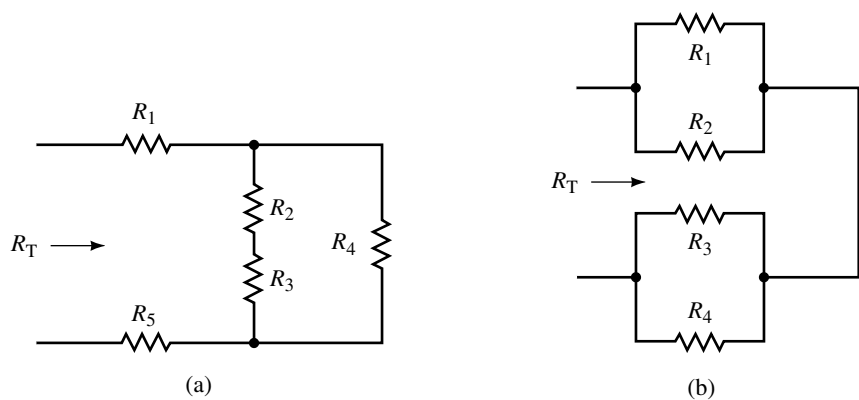

FIGURE 7-46
- For the networks of Figure 7-46, determine which resistors and branches are in series and which are in parallel. Write an expression for the total resistance, R_T .